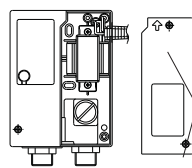

Fig. 4.3
4.3 Remove Right Control Box Cover (Fig. 4.3)